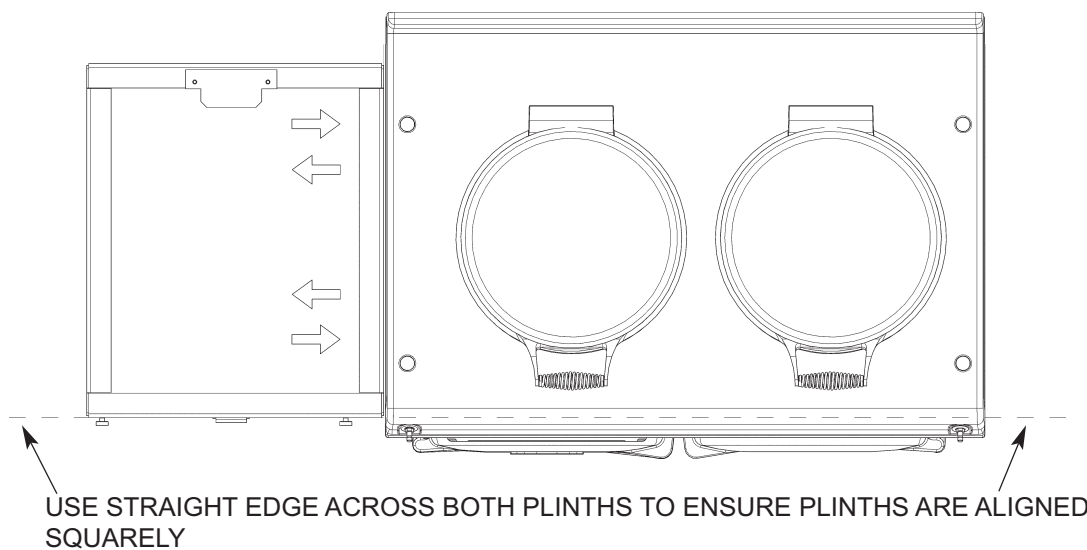

Fig. 18
4. Run a straight edge along the front of the AGA Dual Control plinth, to ensure the front face of both plinths sit squarely against the straight edge. (See Fig. 18)